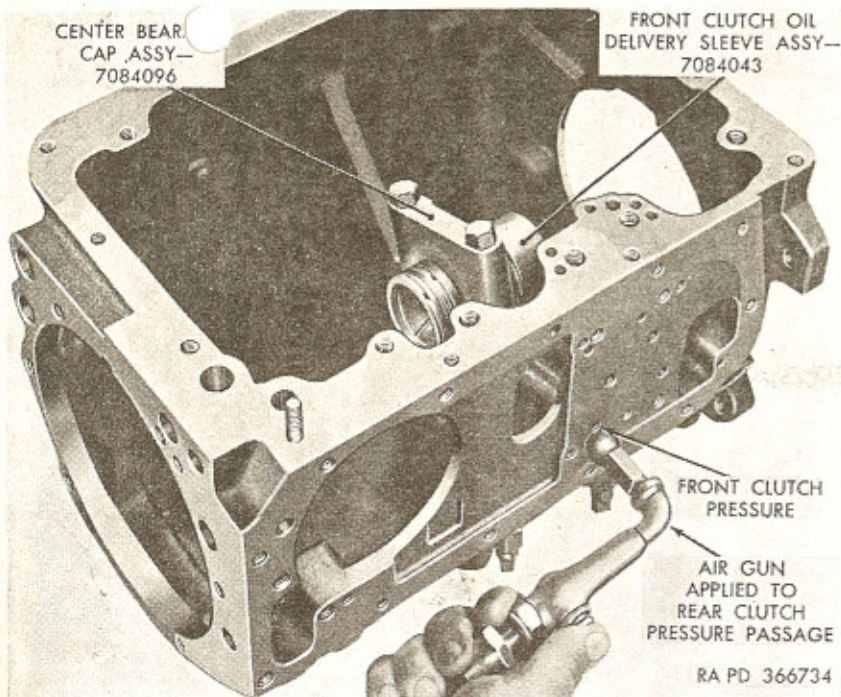

Figure 122. Testing front clutch oil delivery sleeve for leaks using air gun—B7950562.
6. With air gun—B7950562 (fig. 122) connected to source of air pressure, apply pressure to each of the clutch holes in side of transmission case.